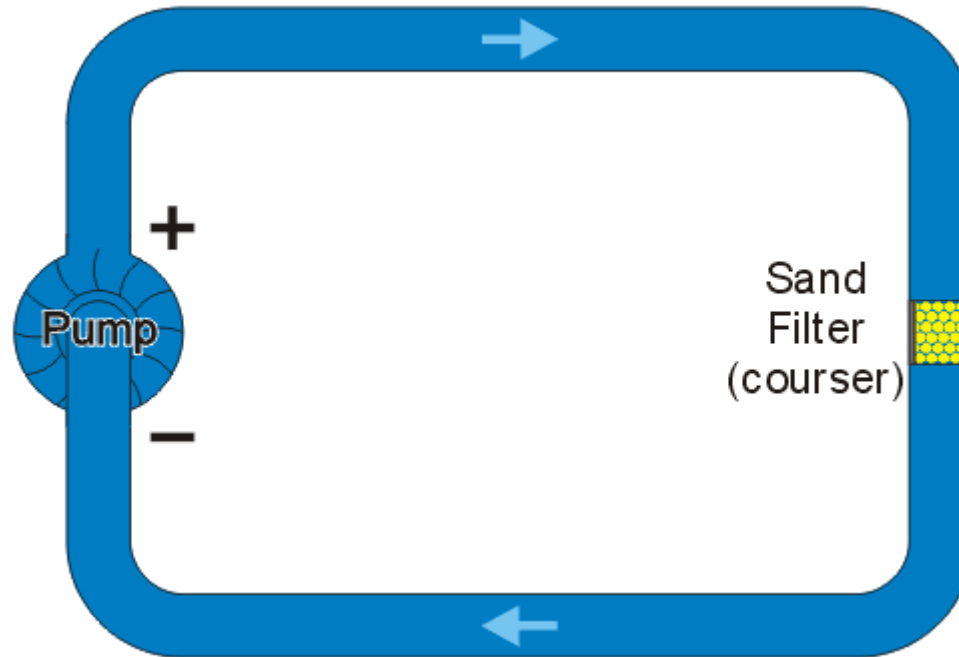

Fig 4: Loop of water with a fine sand filter
- Suppose the sand is replaced by a finer clay as shown in **Fig.4**.